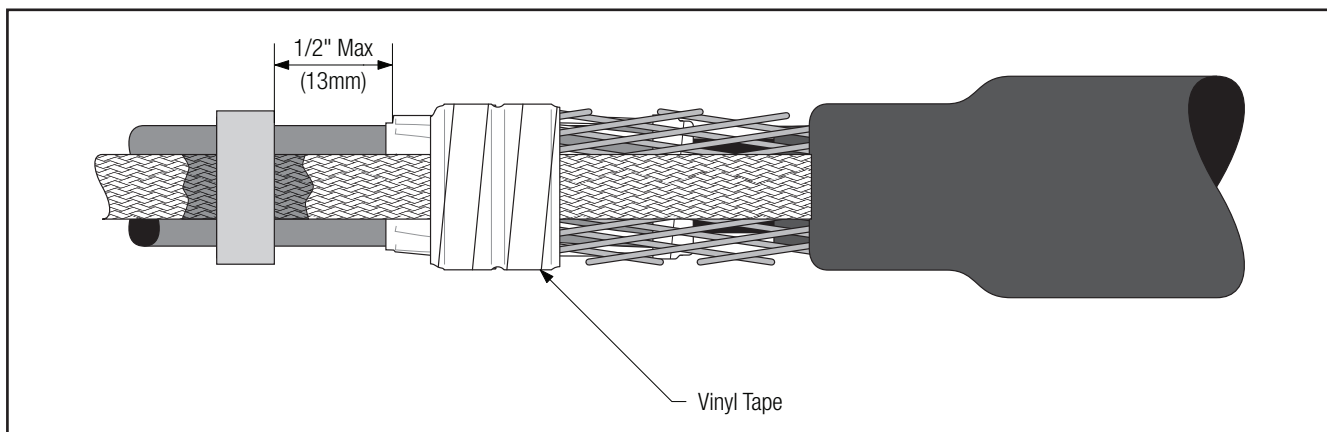

Figure 21
5.10 Wrap two half-lapped layers of vinyl tape over all constant force springs (*Figure 21*).